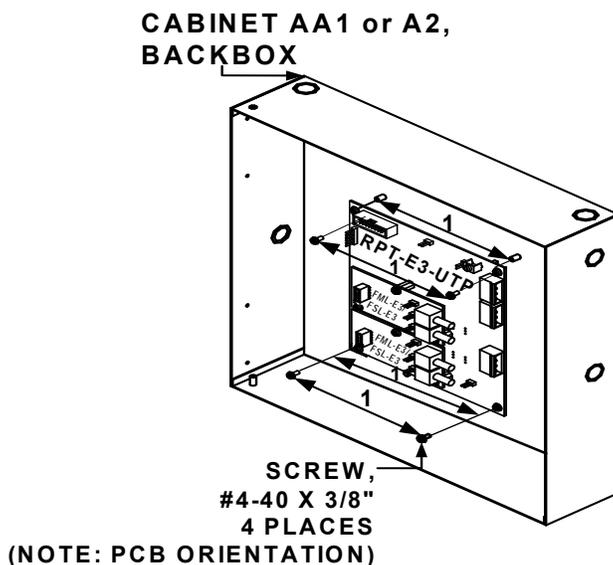

Figure 2.5.2.1.1 RPT-E3-UTP Installed to a CAB AA1 or CAB A2 Backbox
2. Insert and secure four screws (#4-40 x 3/8") into the four studs on the backbox as shown in Location 1 of the figure below. Figure 2.5.2.1.1 illustrates the RPT-E3-UTP installed to a CAB AA1 or CAB A2 backbox.